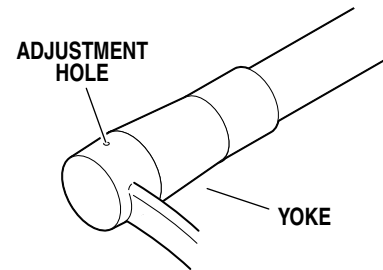

Figure 2-5. Model 29 Roll Adjustment
b. The lighthouse should move freely yet maintain its position without drifting. If the lighthouse drifts, refer to figure 2-5 and proceed as follows: